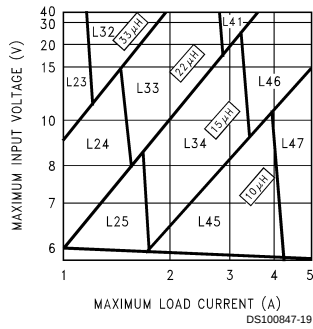
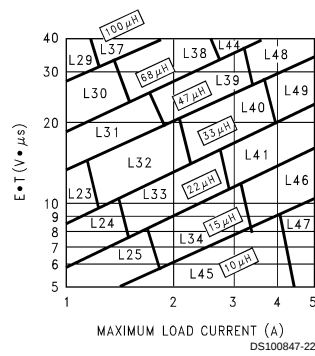

FIGURE 3. LM2679-3.3
FIGURE 6. LM2679-ADJ
Step 3: Determine the inductor required by using one of the four nomographs, *Figure 3* through *Figure 6*. Table 1 provides a specific manufacturer and part number for the inductor.
Step 5: Determine an input capacitor from Table 4 for fixed output voltage applications. Use Table 2 to find the specific capacitor type. For adjustable output circuits select a capacitor from Table 2 with a sufficient working voltage (WV) rating greater than $V_{in\ max}$, and an rms current rating greater than one-half the maximum load current (2 or more capacitors in parallel may be required).
Step 3: Use the nomograph for the 3.3V device, *Figure 3*. The intersection of the 16V horizontal line ($V_{in\ max}$) and the 4A vertical line ($I_{load\ max}$) indicates that L46, a 15 μ H inductor, is required.
Step 3: To use the nomograph for the adjustable device, Figure 6, requires a calculation of the inductor Volt•microsecond constant (E•T expressed in V• μ S) from the following formula:
Using Figure 6, the intersection of 27V• μ S horizontally and the 3.5A vertical line ($I_{load, max}$) indicates that L48, a 47 μ H inductor, or L49, a 33 μ H inductor could be used. Either inductor will be suitable, but for this example selecting the larger inductance will result in lower ripple current.
Important Note: When using the adjustable device in low voltage applications (less than 3V output), if the nomograph, Figure 6, selects an inductance of 22 μ H or less, Table 6 does not provide an output capacitor solution. With these conditions the number of output capacitors required for stable operation becomes impractical. It is recommended to use either a 33 μ H or 47 μ H inductor and the output capacitors from Table 6.